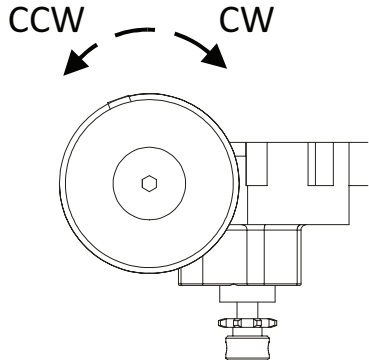
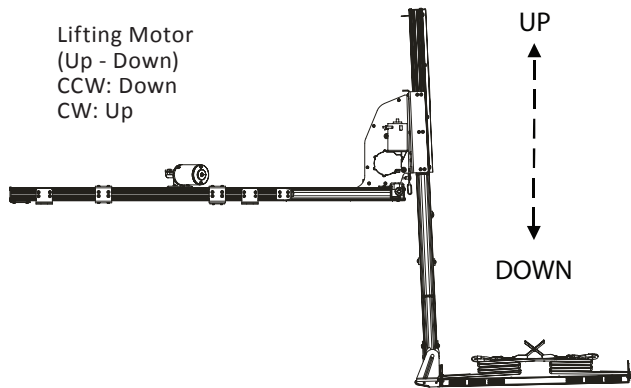
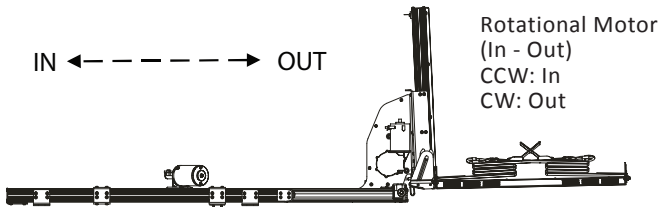

Figure 6-3
Figure 6-4
Figure 6-5
2. Use a 1/4" socket and rotate the hex either Clockwise (CW) or Counter Clockwise (CCW). See Figure 6-3. For Lifting Motor, see Figure 6-4. For Rotational Motor, see Figure 6-5.
Before retracting the lift into the vehicle, be sure that the lift is fully compressed in the UP position. Not doing so may result in damage to the vehicle and/or lift. See Figure 6-4.